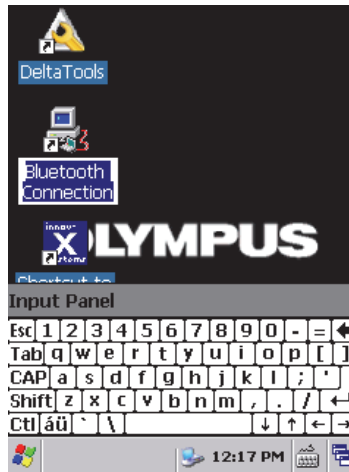

Figure G-21 Renaming the repllog shortcut
2. Use the keyboard to enter a new name (see “Bluetooth Connection” in the example in Figure G-21 on page 187).